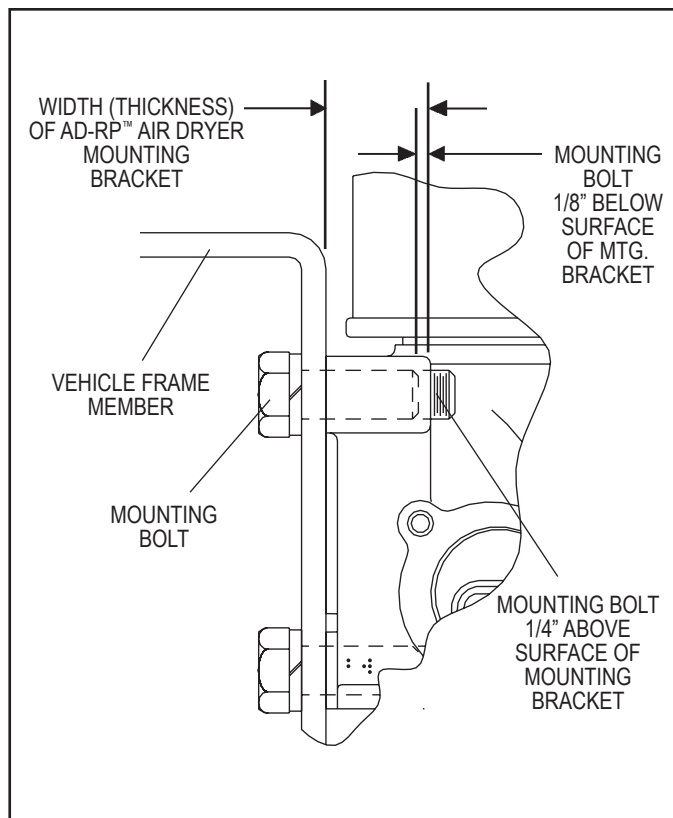

FIGURE 8 - BENDIX® AD-RP™ SYSTEM PURGE AIR DRYER MOUNTING BRACKET BOLT LENGTHS
2. Important: The length of the three mounting bolts used to attach the AD-RP air dryer to the mounting plate is very important. Refer to Figure 8. The threaded end of the 1/2"-13 UNC bolt must be between 1/8" below, to 1/4" above, the surface of the AD-RP dryer mounting bracket surface when fully installed and tightened to 50 lb-ft. Damage to the dryer body will result if the bolt warning is ignored. Measure the thickness of all materials that the three mounting bolts must pass through. Small adjustments can be made using flat washers under the bolt heads. Do not use more than three (3) flat washers.